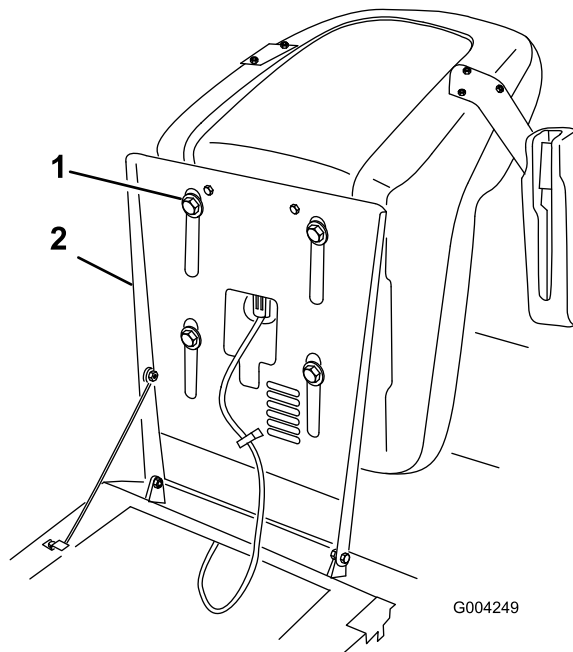

Figure 18
2. Raise the seat and loosen the adjustment bolts (Figure 18).